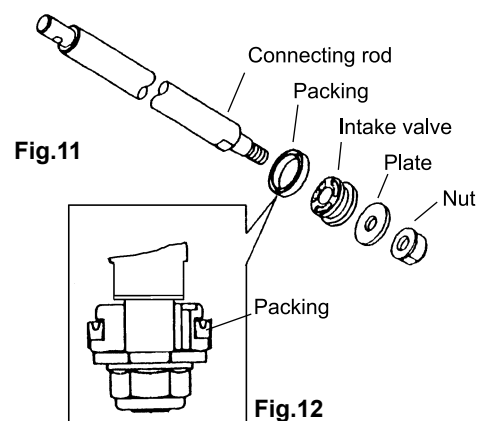

Fig.11
- 11) By using a spanner on the two flat cuts on the connecting rod and the nut, detach them and check the packing by washing for any wear and scars. (Fig.11)